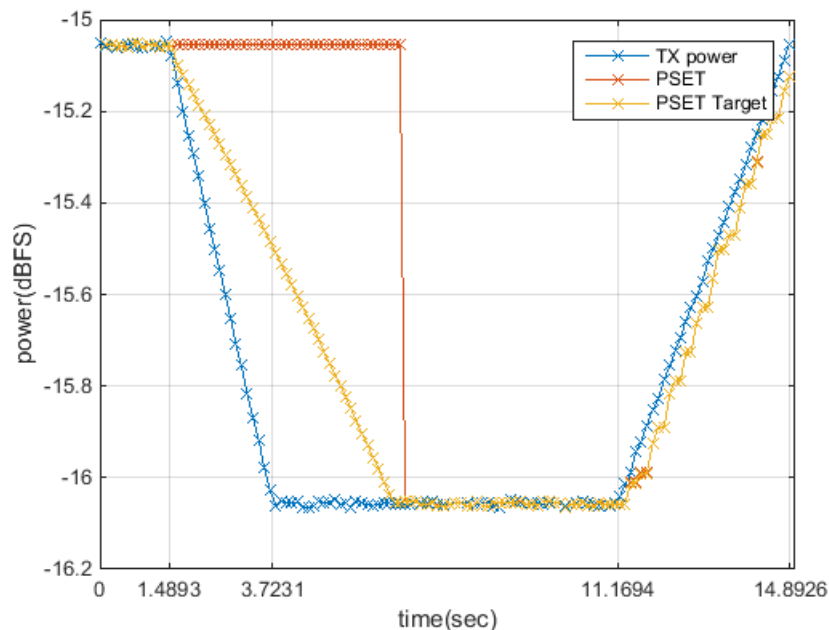

Figure 6-9: Single set DCL PSET training
The method is to store the coefficients used for predistortion together with a record of the power at which they were estimated (SS_PSET0). Then estimate and replace the coefficients whenever the current measured power (P) crosses a specific threshold. With traffic dynamics, SS_PSET0 becomes closer and closer to P_{max} if the trigger is $P > SS_PSET0$. However, to track analog gain drift it is necessary to ensure that the predistortion coefficients are unconditionally recalculated within a certain time span. Therefore, the trigger condition needs to be modified to allow for situations when P falls below SS_PSET0 . This is obtained by resetting the trigger threshold to SS_PSET0 initially and whenever an estimation is performed. After the threshold has been reset, it decays with time, at a user programmable rate ($DCLPSTEP$). When the threshold falls to P , the coefficients are re-estimated. An example of the behavior of this algorithm is shown in Figure 6-9.